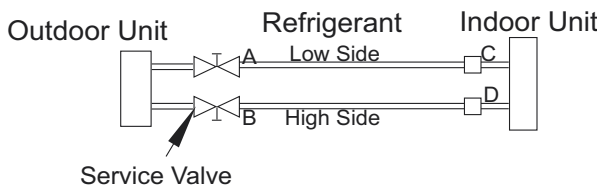

Fig. 8 — Service Valve
1. Completely tighten the flare nuts (A, B, C, D, E). Fully open all circuits service valves. Connect the manifold gage charge hose to the charge port of the low side Master service valve to evacuate all circuits at the same time (see Fig. 8).